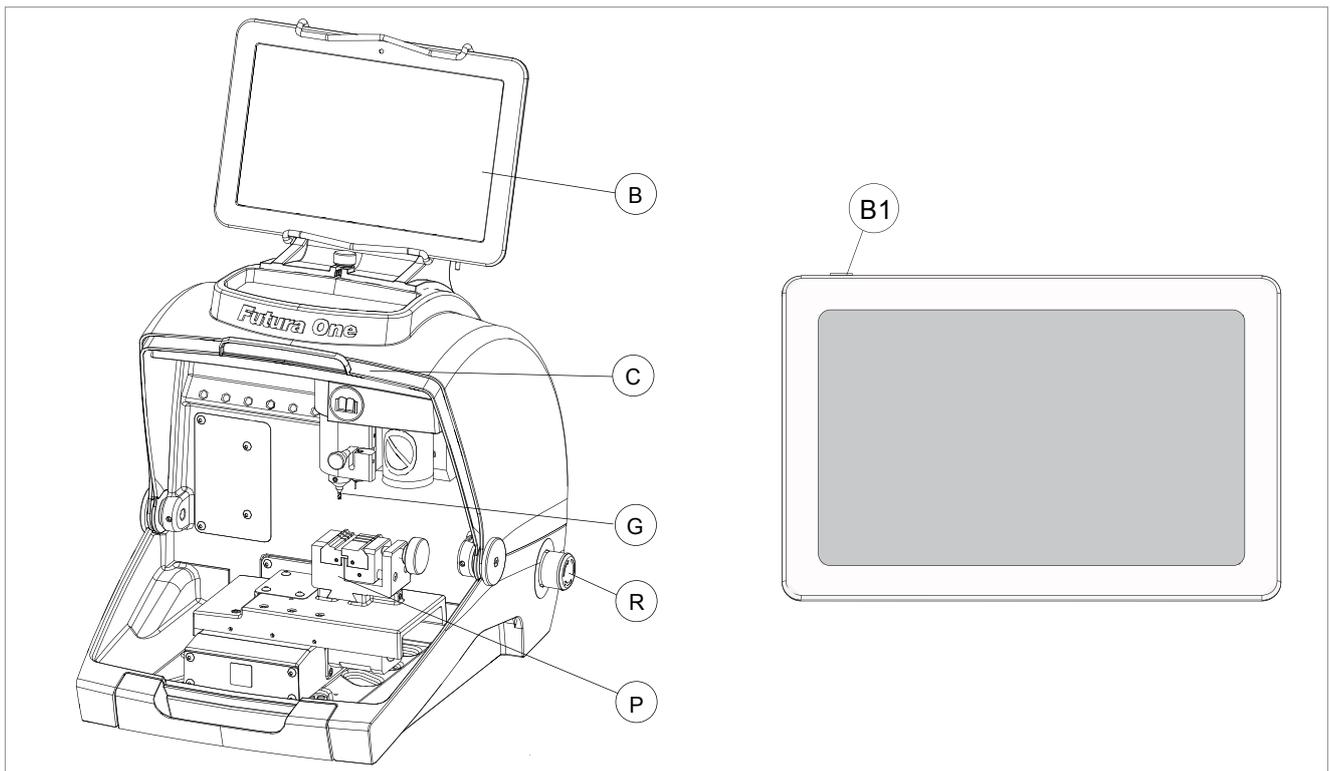

Fig. 21
- 2) Turn on the tablet by holding down the push button (B1) (Fig. 21) holding it down for a few seconds.